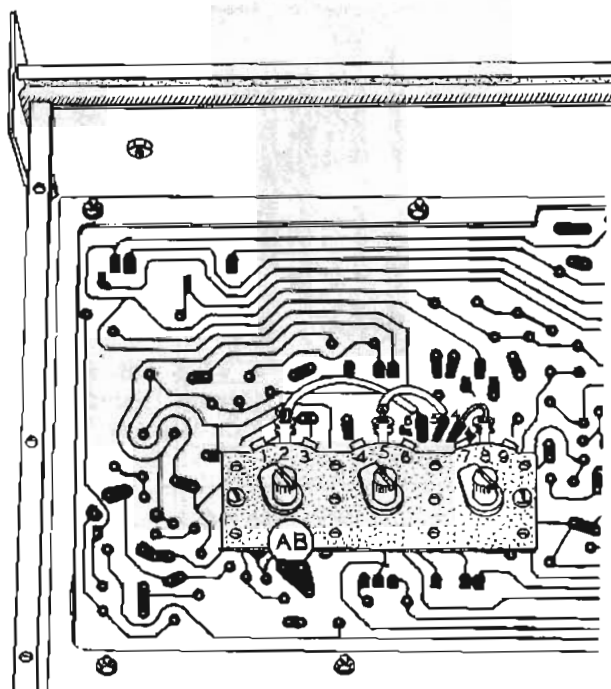

Figure 18
- () Install another triple 250 KΩ control AB. See Figure 18.